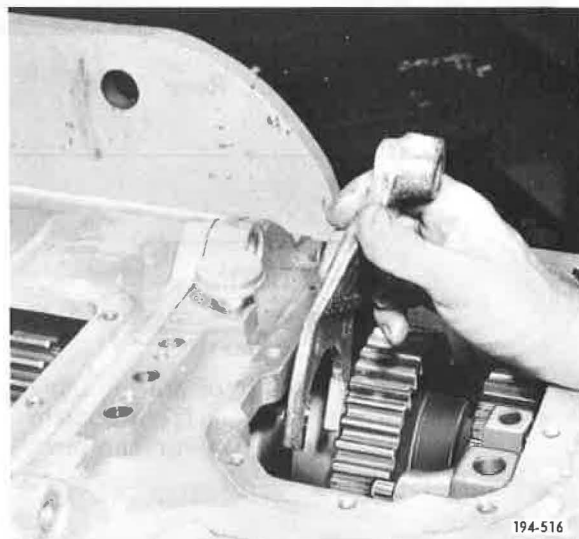

Figure 5-978. Installing Shift Fork
8. Install second/third speed shift fork onto second/third speed sliding clutch. See **Figure 5-978**.